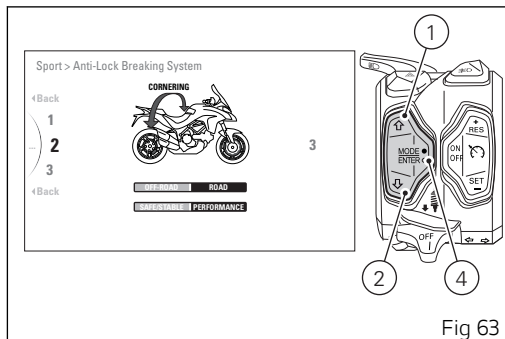

Fig 63
With buttons (1) and (2) select the new level of intervention desired. For each highlighted level, the corresponding paired value in the central table (highlighted with a black background) will be displayed. Furthermore, the braking system intervention level is indicated in Light Blue: the indication "**!FRONT ONLY**" (Fig 62) only for the front active brake, the indication "**CORNERING**" (Fig 63) for the active Cornering function.